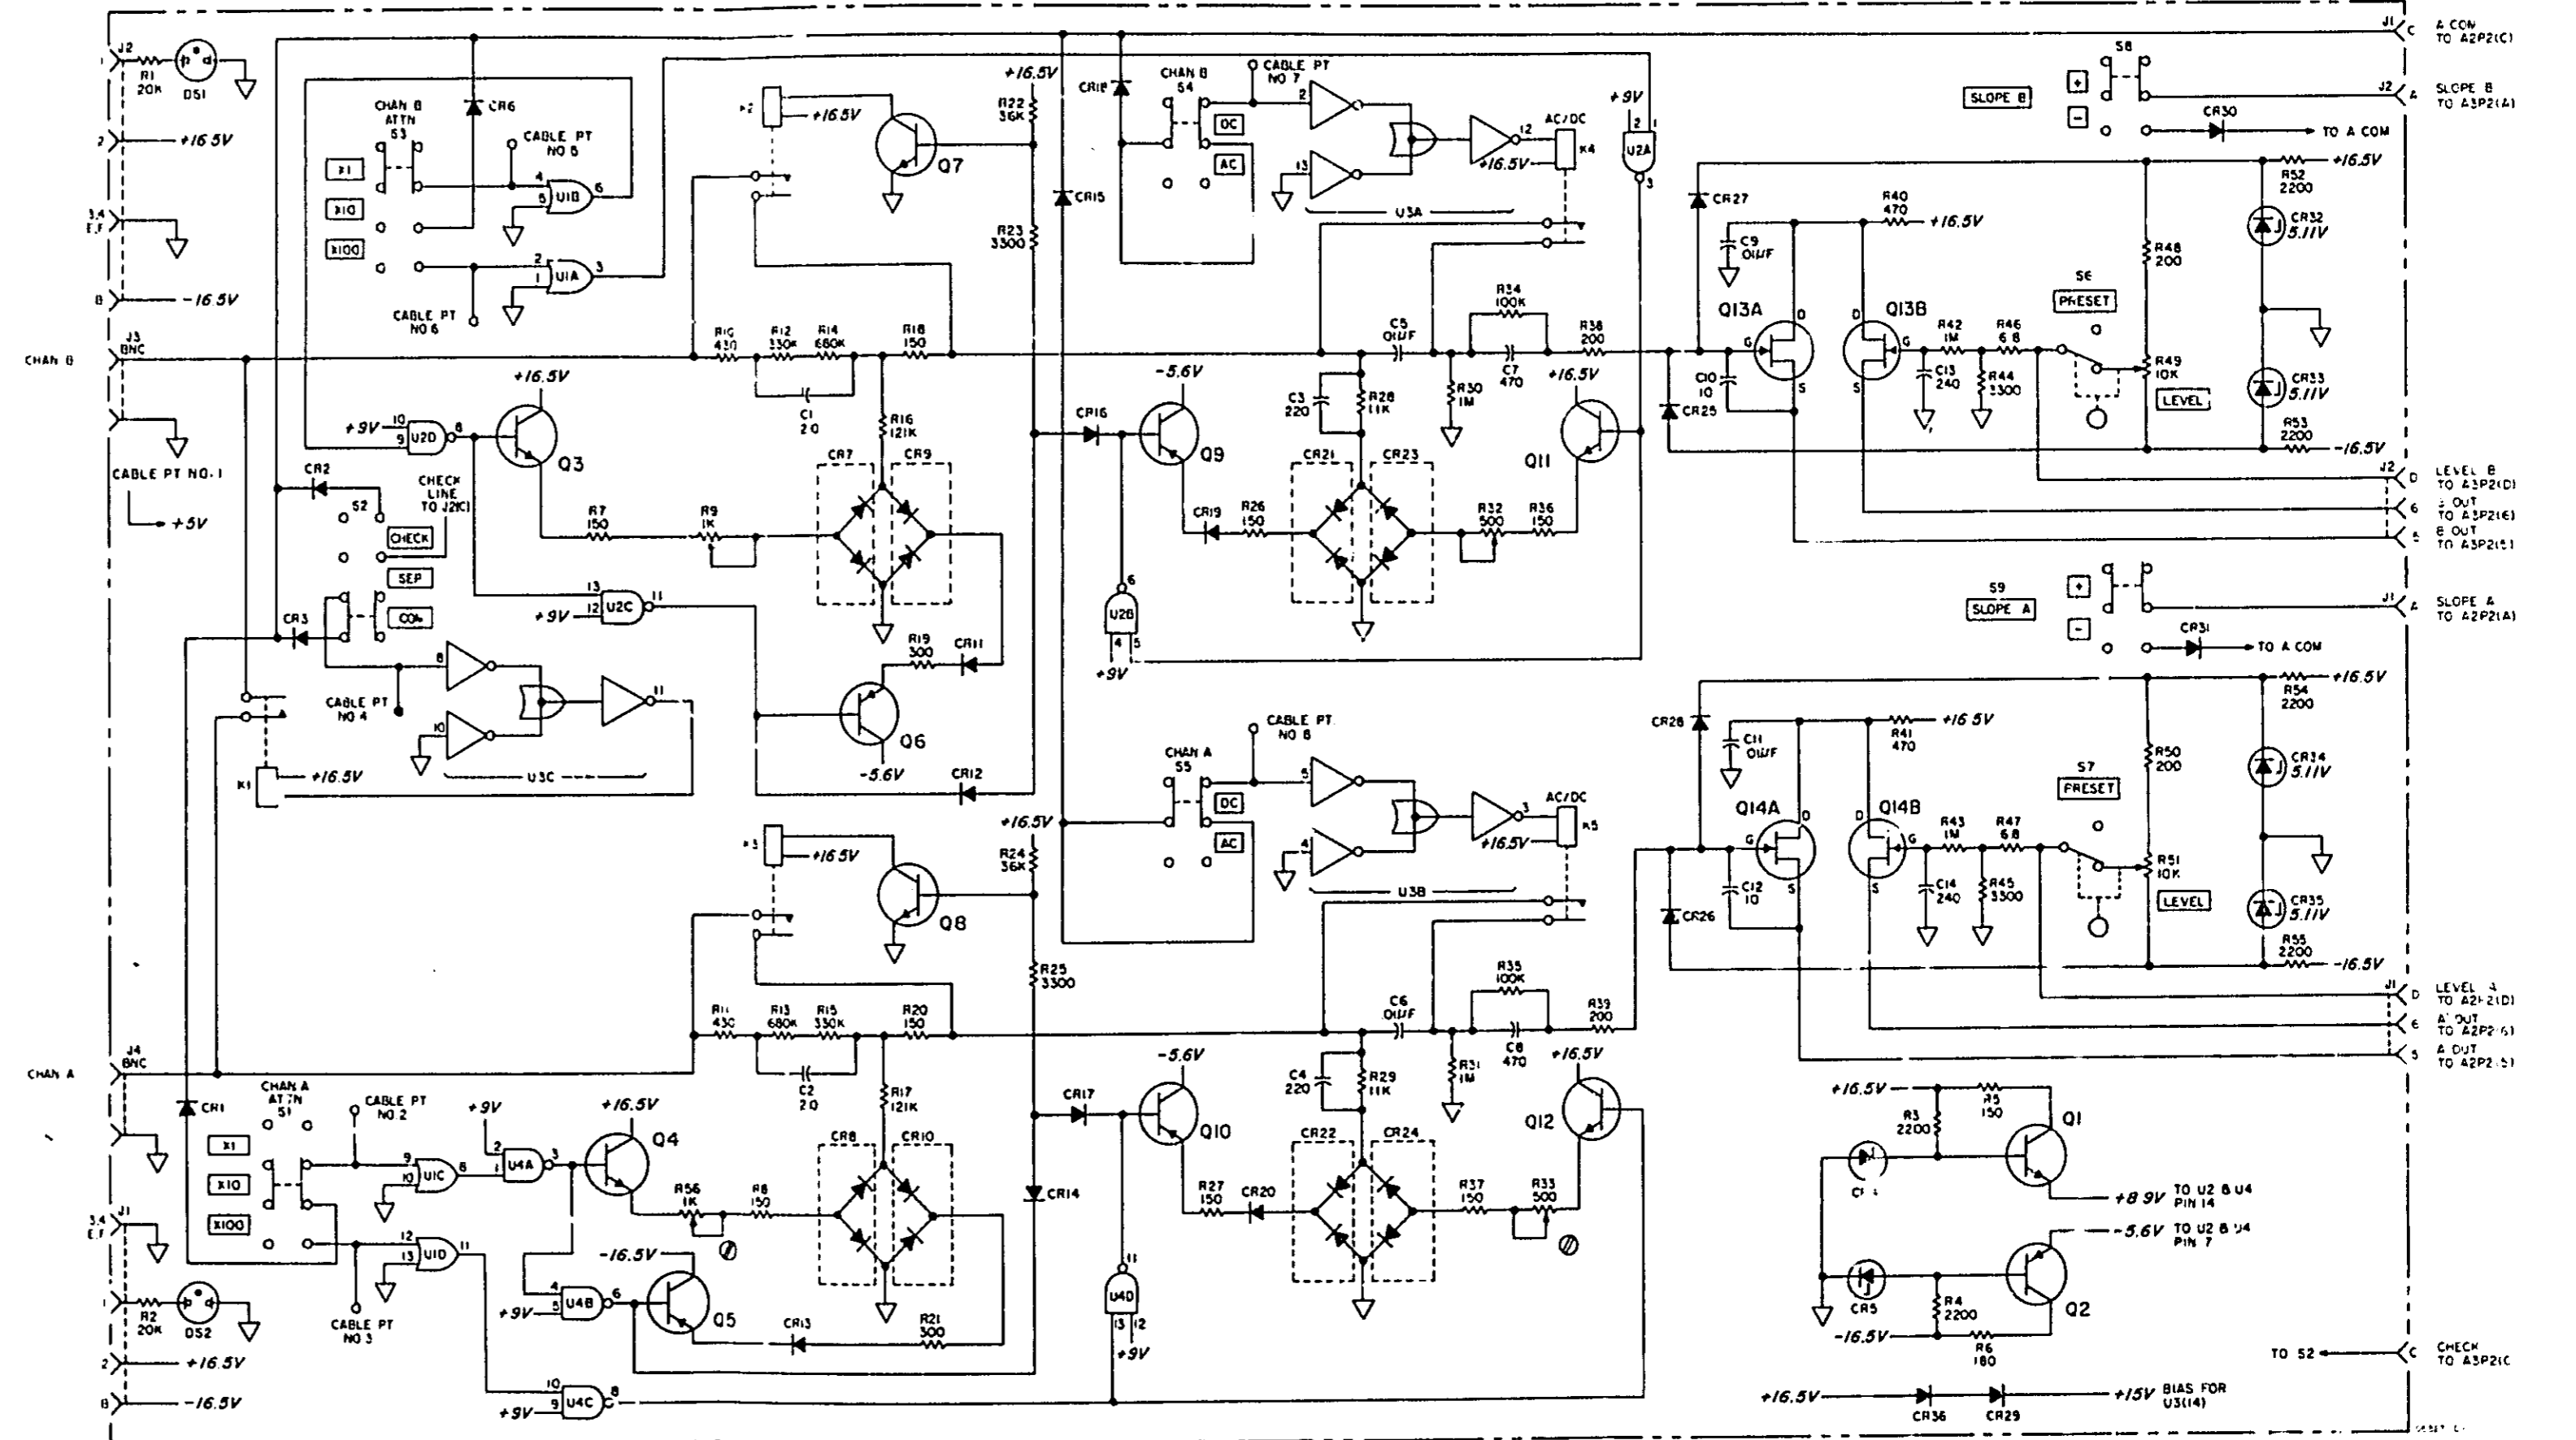

Figure 8-23. A1 Option 004 Programmable Attenuator Assembly
Part of Figure 8-23. Option 004 Programmable Attenuator Assembly
**Page 8-55, Figure 8-23, Option 004 Schematic:**